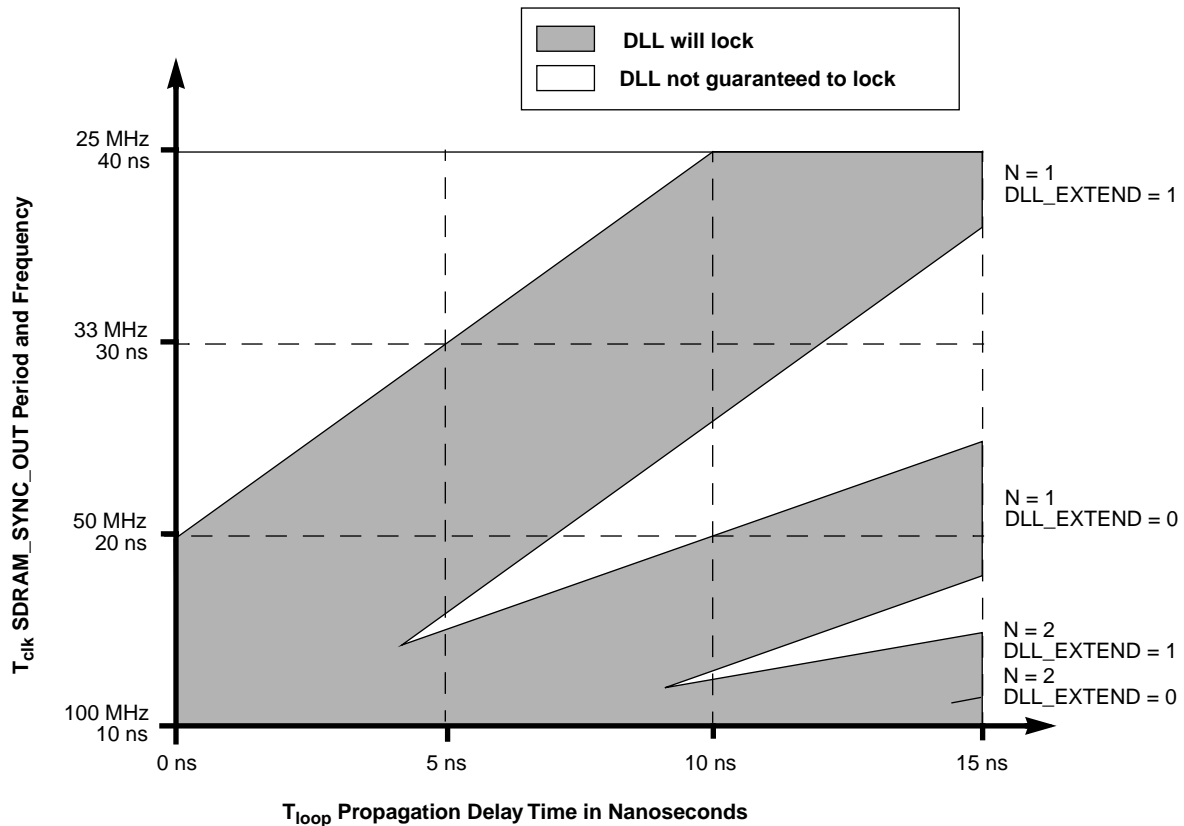

Figure 6. DLL Locking Range Loop Delay vs. Frequency of Operation
- 7 DLL_EXTEND is bit 7 of the PMC2 register <72>. N is a non-zero integer (1 or 2). T_{clk} is the period of one SDRAM_SYNC_OUT clock cycle in ns. t_{loop} is the propagation delay of the DLL synchronization feedback loop (PC board runner) from SDRAM_SYNC_OUT to SDRAM_SYNC_IN in ns; 6.25 inches of loop length (unloaded PC board runner) corresponds to approximately 1 ns of delay. t_{fix0} is a fixed delay inherent in the design when the DLL is at tap point 0 and the DLL is contributing no delay; t_{fix0} equals approximately 3 ns. See Figure 6 for DLL locking ranges.
Figure 4 shows PCI_SYNC_IN input clock timing, Figure 5 illustrates how the Table 8 clock specifications relate to the MPC107 clocking, and Figure 6 shows the DLL locking range loop delay versus frequency of operation.